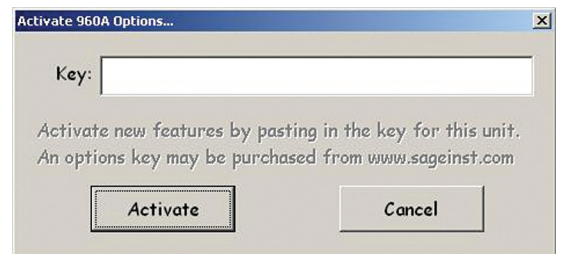

Figure 8.2.2 Activate Options Dialog
- C.** To install a 960B new options file click on the "Activate Options" button circled in Figure 8.2.1. A dialog box containing a blank "Key Field" will appear as shown in Figure 8.2.2.
- F.** Highlight the options string and copy it to the Windows clipboard. To copy, type Ctrl-C (press and hold the 'Control' key while you type 'c'). To install the new Option File into the 960B return to the activate options dialog box containing the blank "Key Field" shown in Figure 8.2.2.